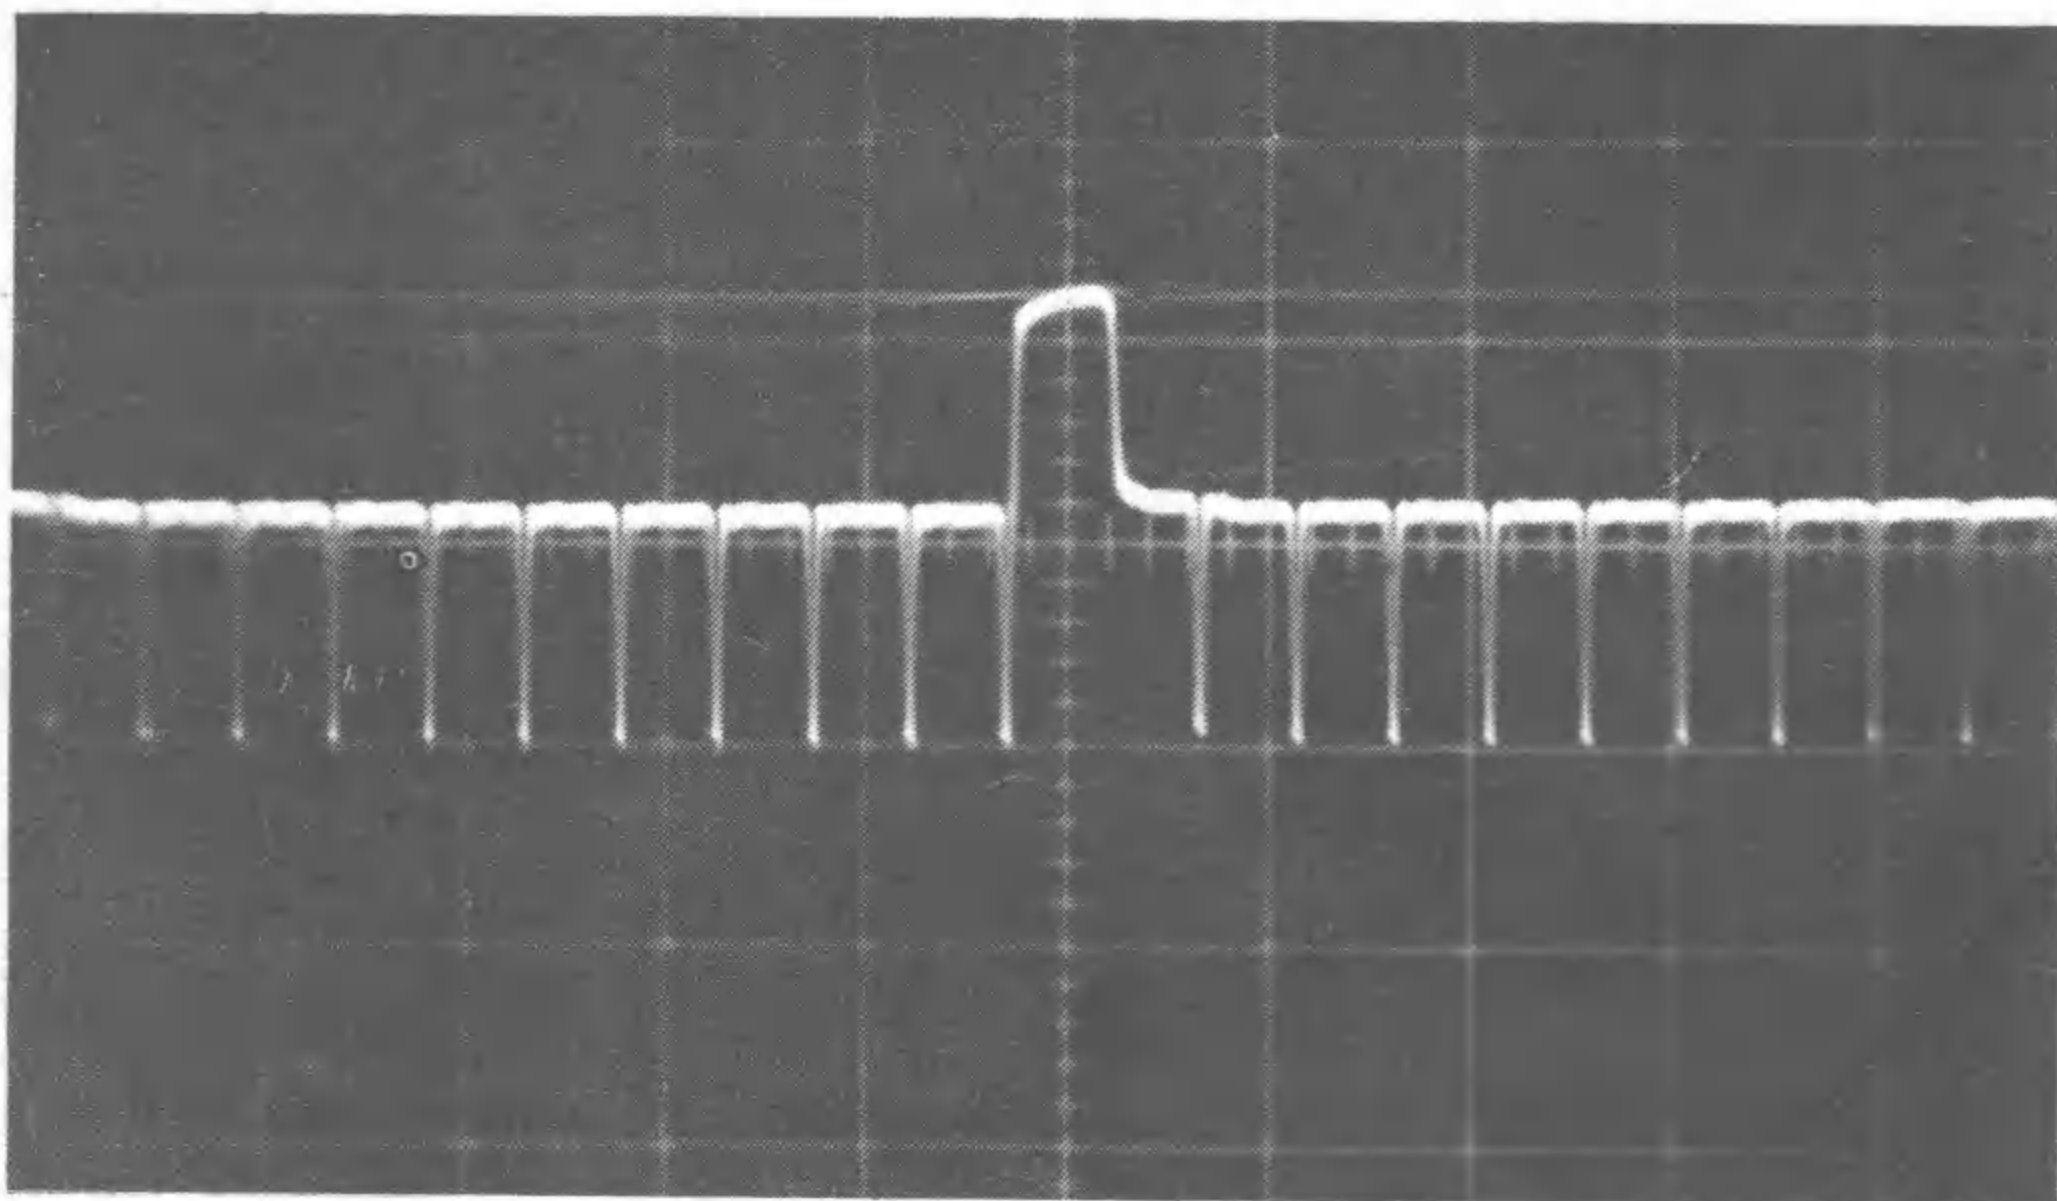

Fig. 2. Measuring peak-to-peak voltages.
4. Multiply the distance measured by the setting of the GAIN switch. The result is the voltage between the two points measured. In the composite video waveform shown in Fig. 2, the total distance from the tip of the sync pulse to the most negative point is 2.2 divisions. The setting of the GAIN switch is 2 VOLT/DIV, so the total peak-to-peak amplitude of the signal is 4.4VP-P. The distance from the tip of the sync pulse to the blanking level is 1 division so the amplitude of the sync pulse is 2V.